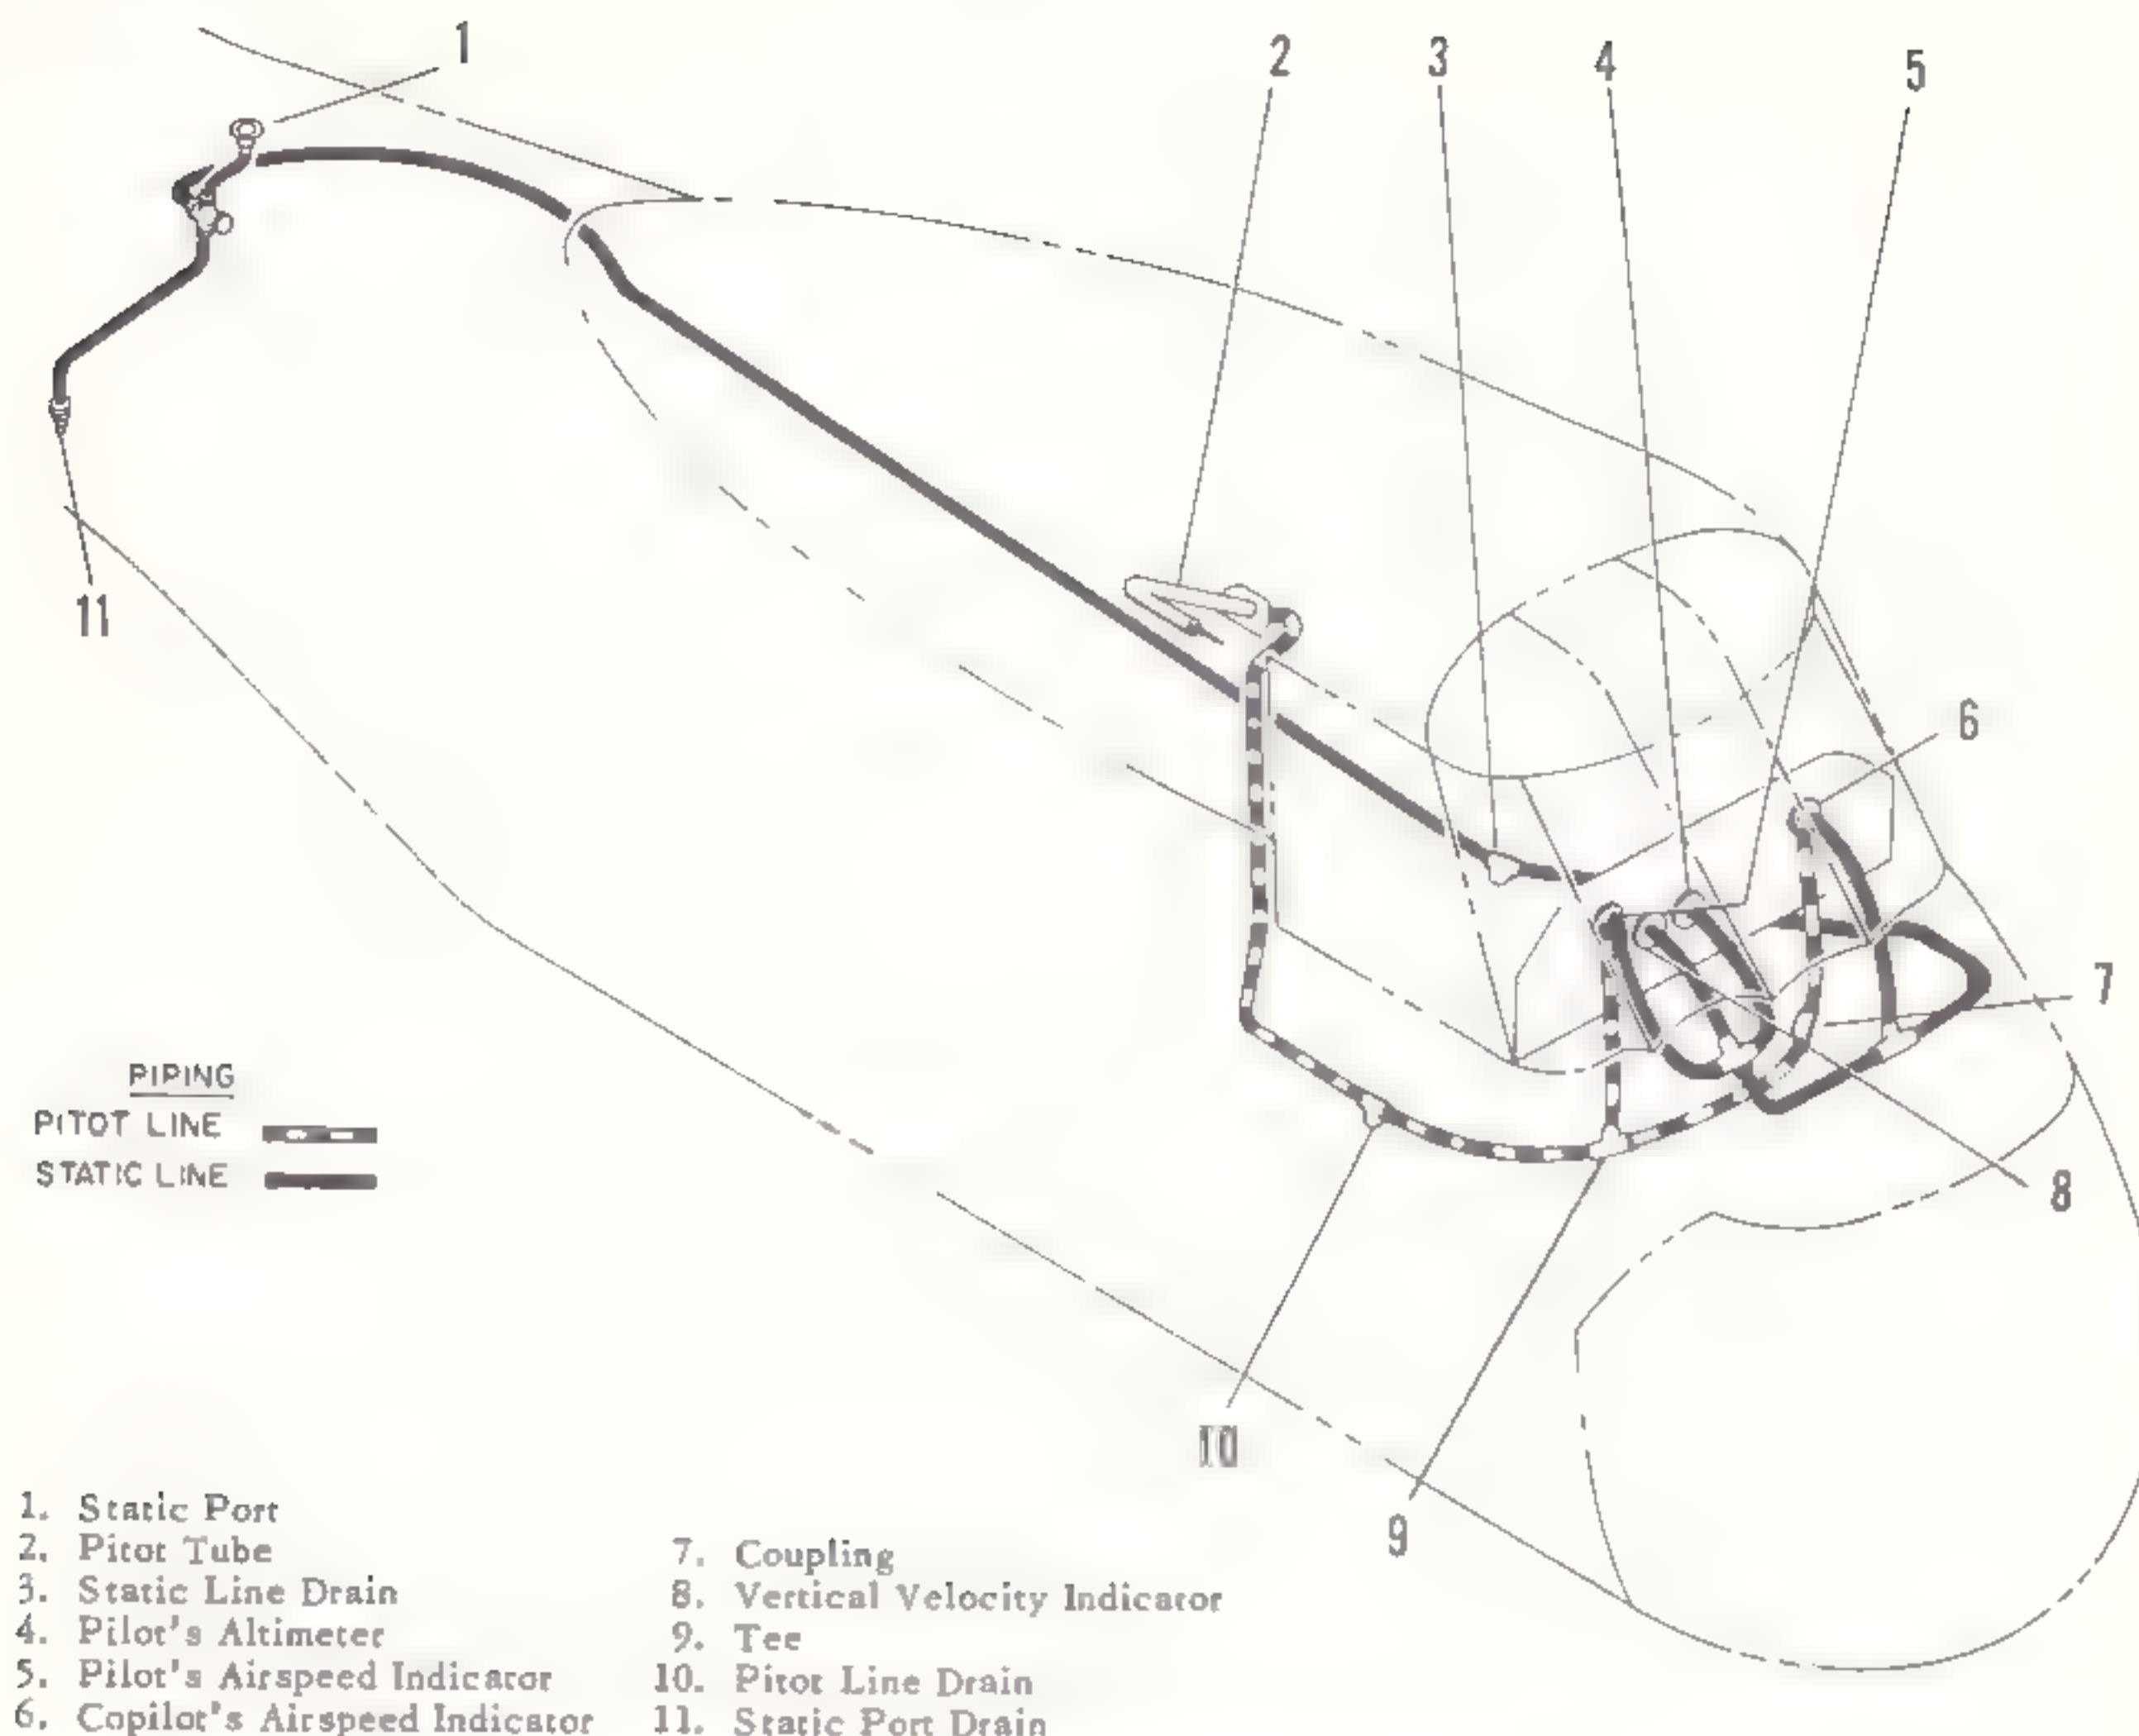

Figure 10-7. Pitot and static system (model CH-34A)
10-26. Static Pressure System. (See figures 10-7 and 10-8.) The static pressure system consists of a static pressure port, tubing, and hose extending from the connection to the barometric altimeter, airspeed indicator, and vertical velocity indicator.
The static pressure port (1, figures 10-7 and 10-8) consists of a group of seven holes in the skin which open into a threaded flange and gasket riveted to the inner surface of the skin. The static port is located on top of the helicopter above the electronics compartment.
10-27. Cleaning. a. Drain off any moisture accumulated in the pitot system daily by removing cover from pitot line drain (10, figure 10-7 or 12, figure 10-8) at the forward cabin bulkhead on the right side. Replace cover and tighten securely to ensure an airtight fit. Make sure drain holes in pitot tube (2, figures 10-7 or 10-8) are free of dirt.
b. Daily drain off the moisture which collects in the static system at the static port drain (11, figure 10-7 or 13, figure 10-8) mounted on the right side of the electronics compartment aft bulkhead and the static line
drain (3, figure 10-7 or 10-8) on the left side of the cabin forward bulkhead.